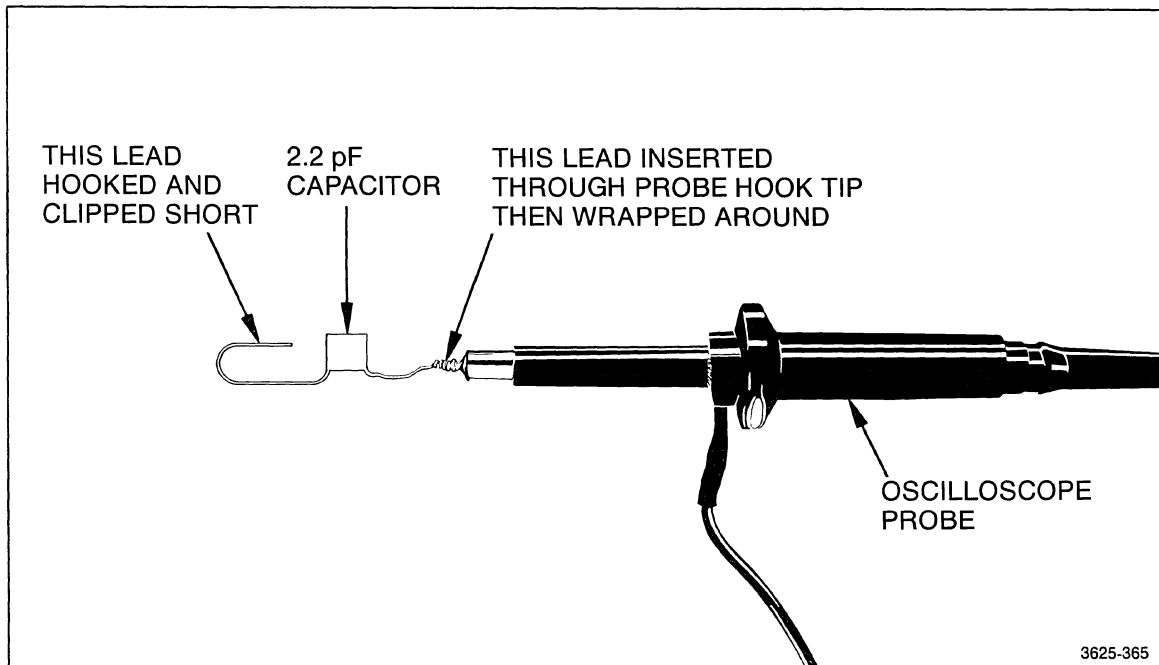

Figure 5-68. Connecting the 2.2 pF capacitor to the oscilloscope probe.
1. Connect the 2.2 pF capacitor to the oscilloscope probe as shown in Figure 5-68. The video signals from the Z-axis board will be monitored through this capacitor.